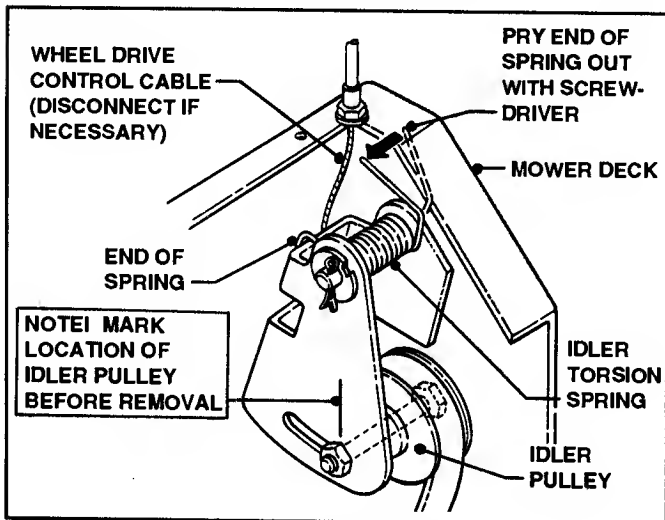

FIGURE 3.16
10. Release pressure on Idler Torsion Spring by prying out upper end of spring with screwdriver. See Figure 3.16.
- B. Before re-attaching Wheel Drive Control Cable, (refer to Figure 3.16), the Adjusting Wheel should be turned clockwise to lengthen the Cable for easier installation. After the Cable has been attached, rotate the Adjusting Wheel counter-clockwise until the Drive Belt has enough tension to power the mower. **DO NOT OVERTENSION BELT!**